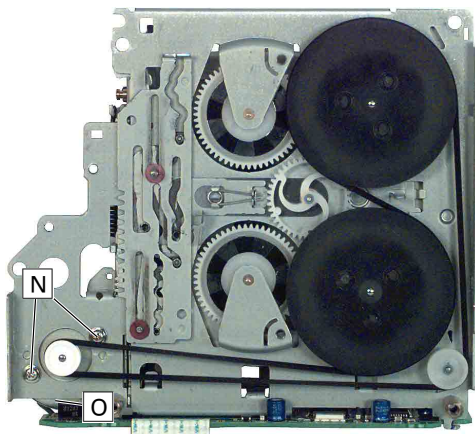

Fig. 2.5
2.5 Wickelmotor **O ausbauen (Fig. 2.5)**
2.5 Removing winding motor **O (Fig. 2.5)**